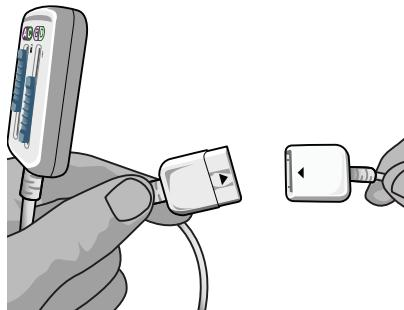

Figure 4: External Trial Stimulator 2 and 2x8 OR Cable and Extension
1. Attach the OR Cable Extension to the OR Cable (Figure 4).